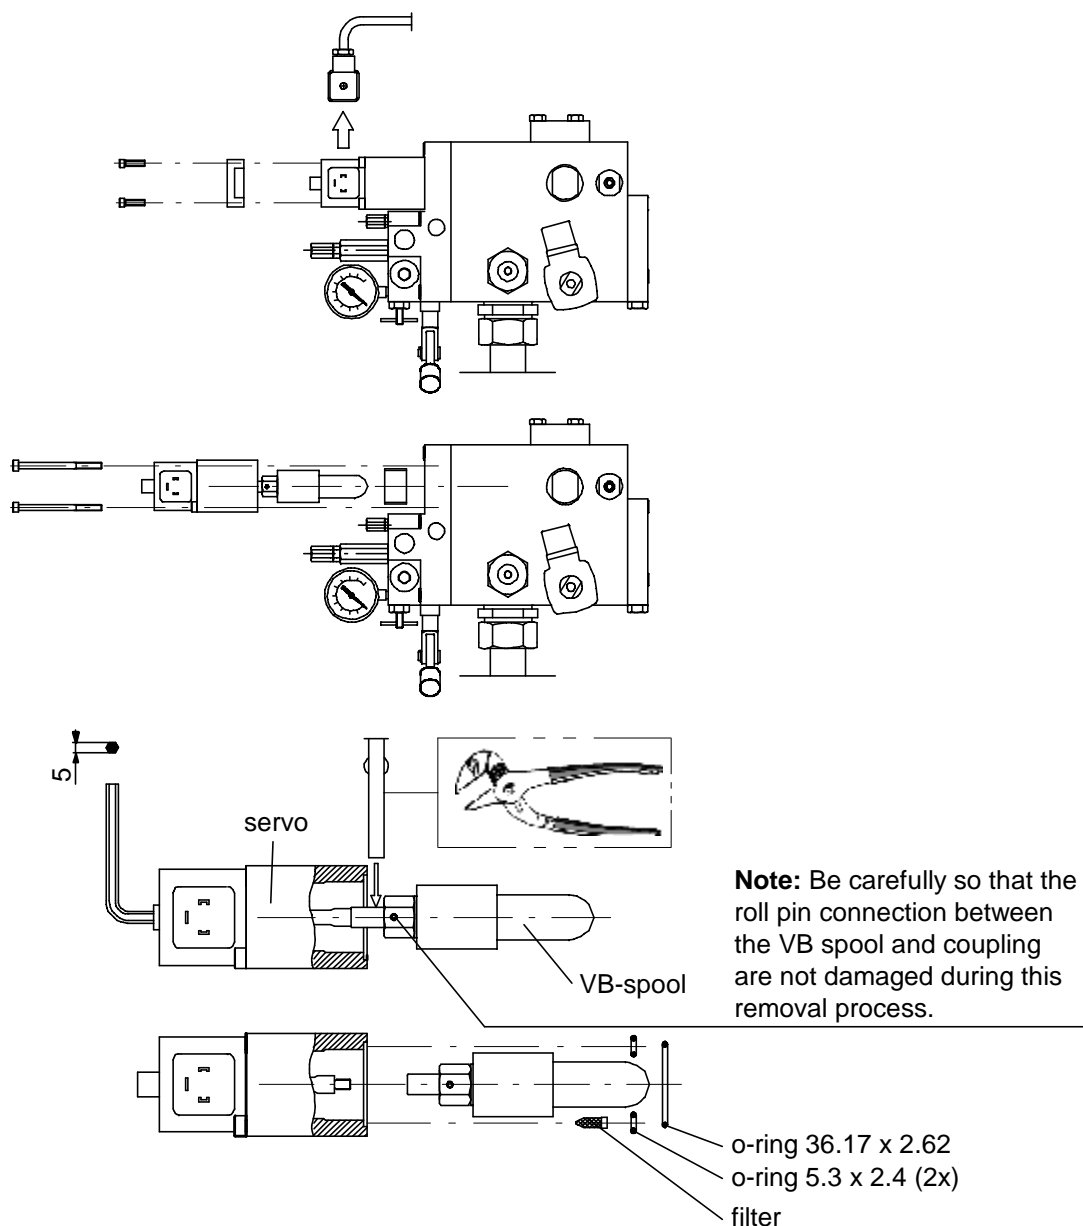
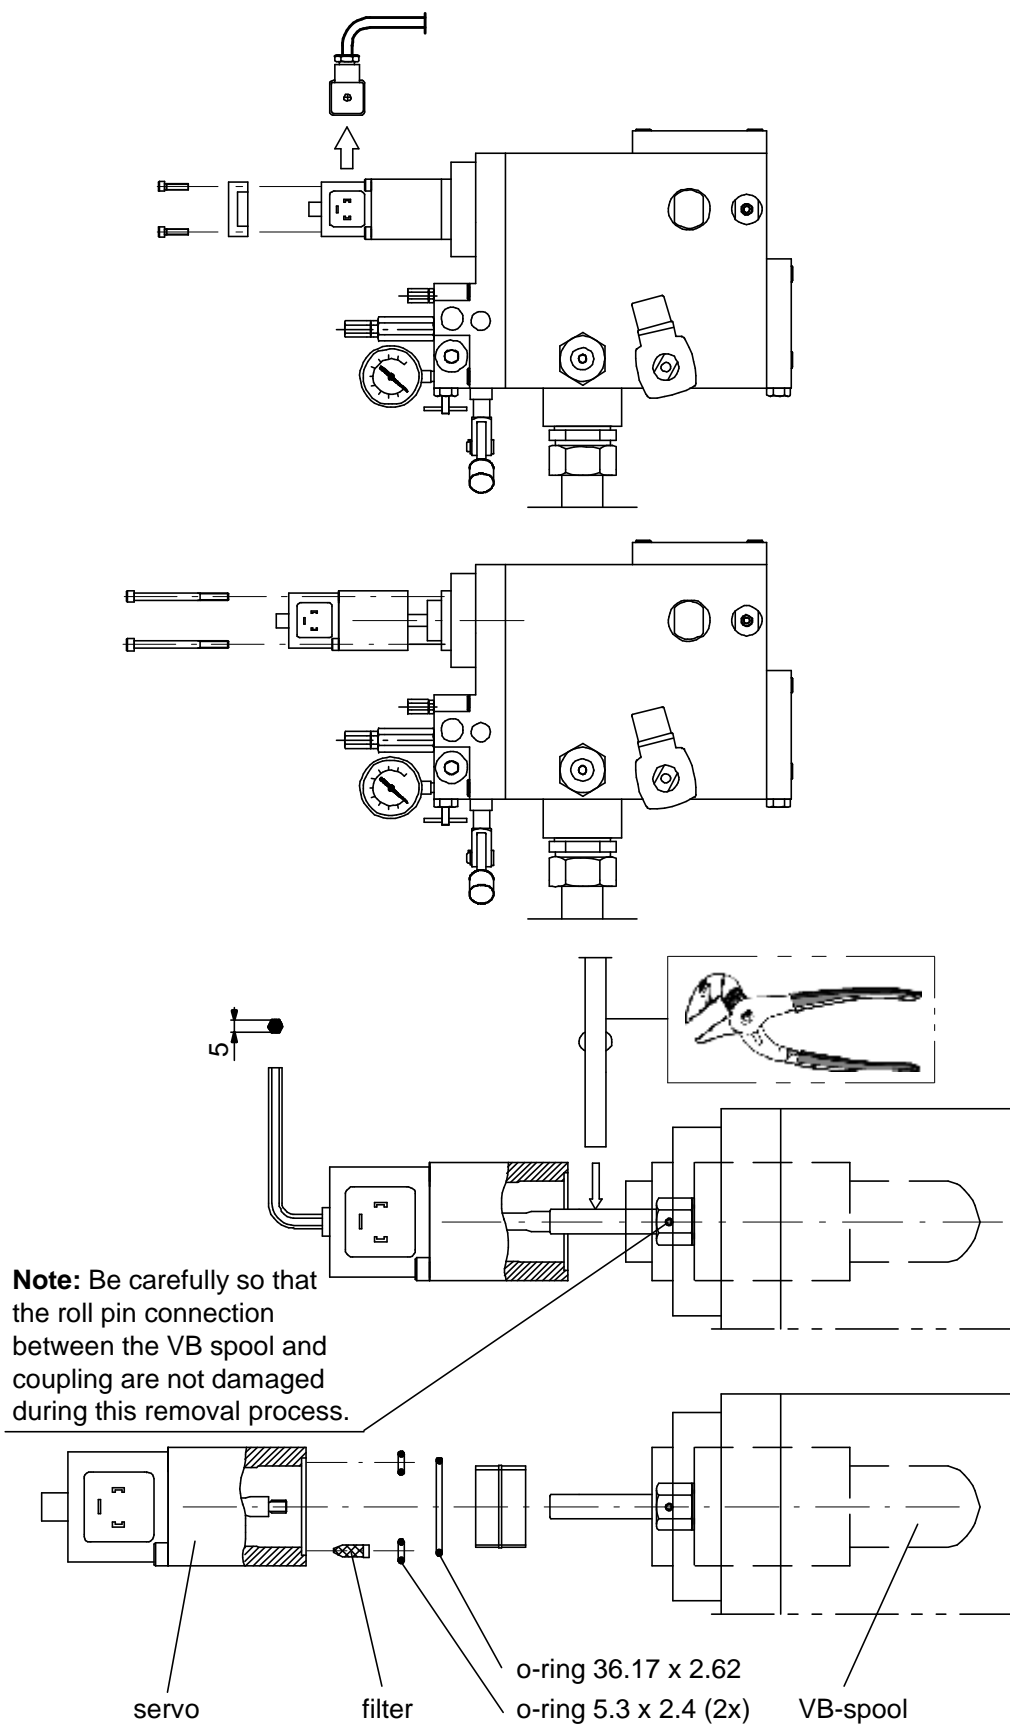

Fig. 10.5 Exchange of servo valve (Valve size 52-216 l/min)
Fig. 10.6 Exchange of servo valve (Valve size 250-600 l/min)
3. Remove the servo valve according to Fig. 10.5 (valve size 52-216 l/min) or Fig. 10.6 (valve size 250-600 l/min). The roll pin connection **must not** be removed. Use the pliers to hold the round bar and prevent that the roll pin connection is loaded and damaged.
2. Make sure that filter and o-rings are located in their correct positions (see Fig. 10.5 or Fig. 10.6).